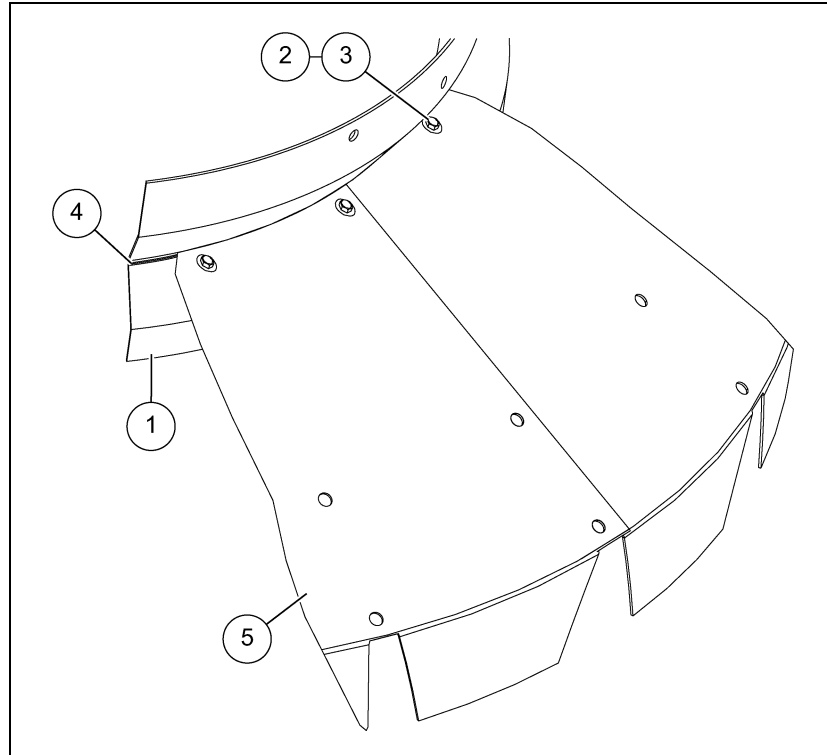

Figure 11A Roof Flashing (for 24' Diameter Bins)
1. Apply caulking (4) to the center collar (1) where the flashing will be placed.
2. Assemble the flashing (5) pieces together with the center collar (1) using 5/16" flange bolts (2) and 5/16" flange nuts (3). (See Figure 11A.)